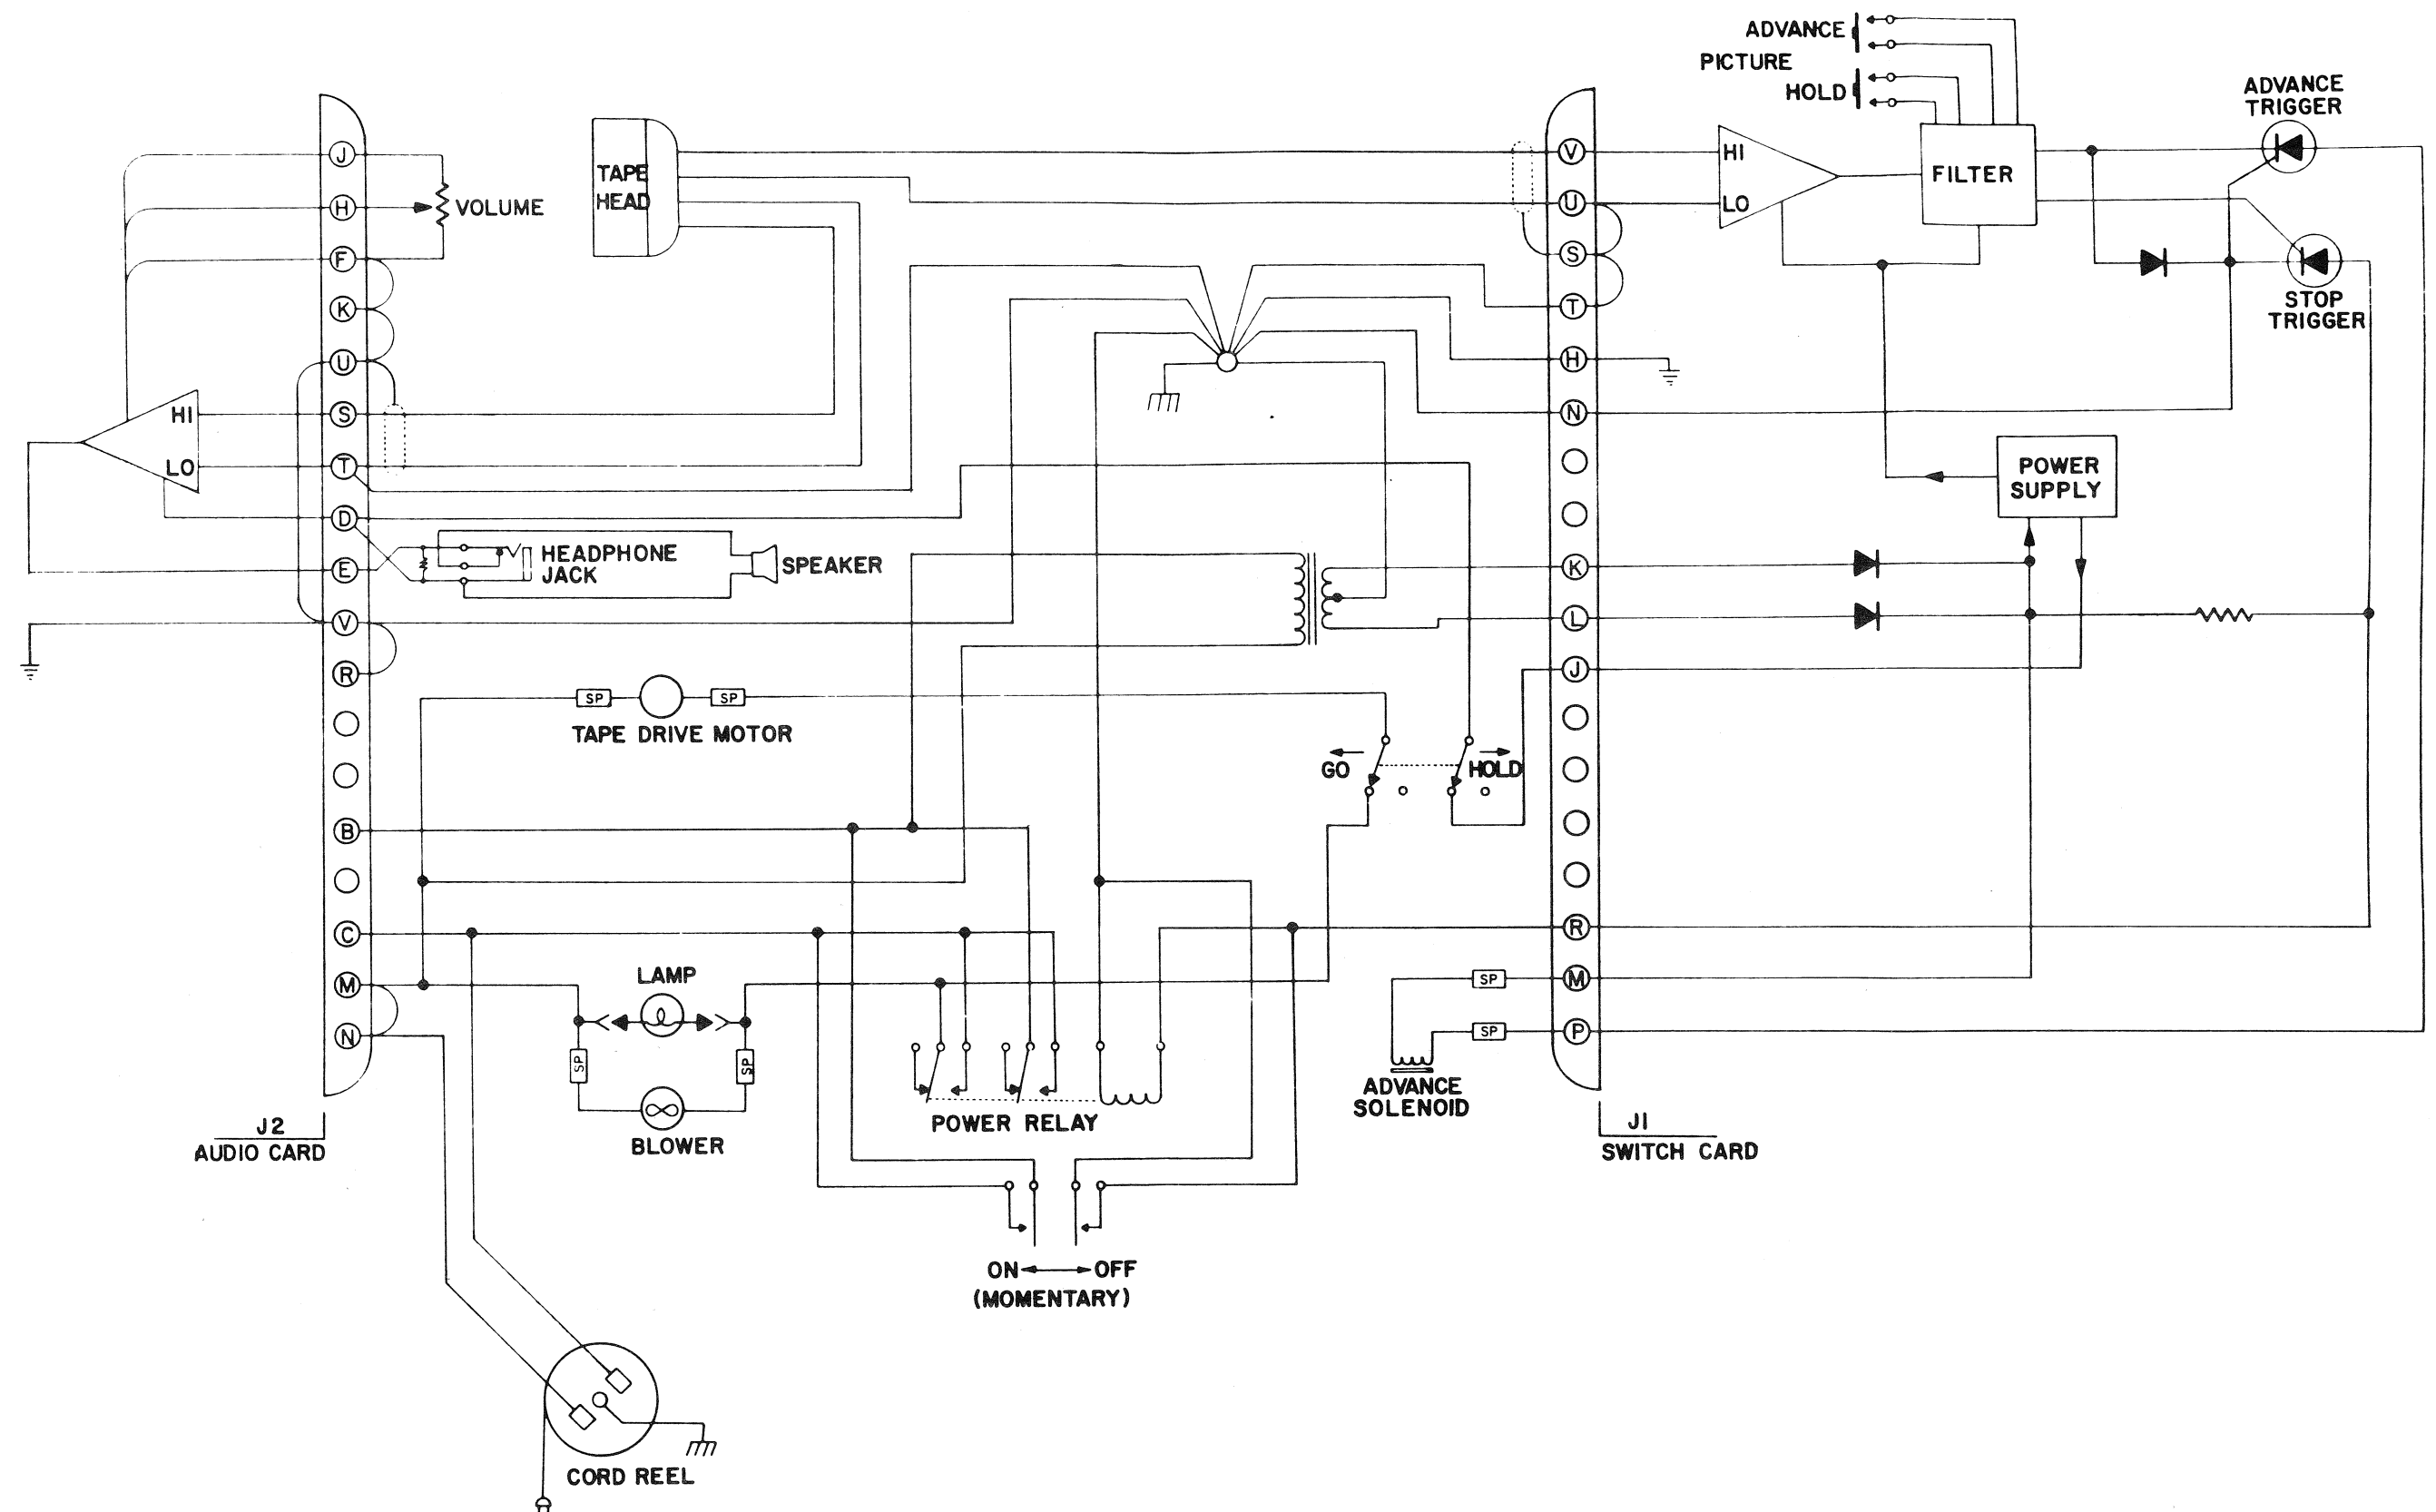

Fig.1-4 PROJECTOR
- 1.8 Model B Electrical System; Theory of Operation (Refer to Figure 1-4.)